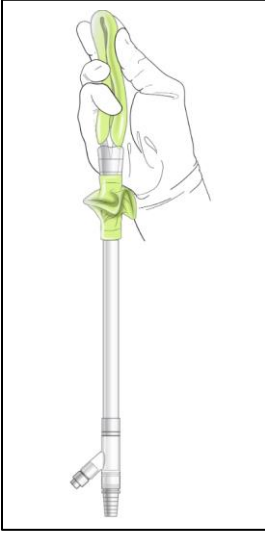

Figure 1
8. Using a hand, compress the Intrauterine Loop near the distal tip for support and insert Jada transvaginally, leading with the Intrauterine Loop (**See Figure 1**). Avoid excessive force. Use gentle traction on the